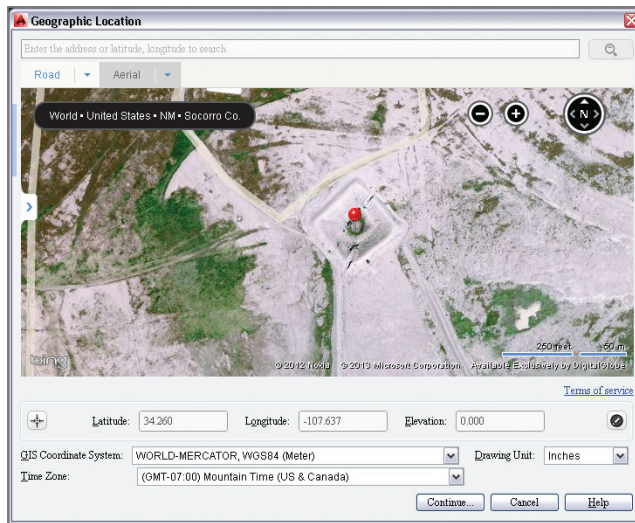

FIGURE 15.2 Selecting a geographic location with aerial maps
2. Select the ribbon's Insert tab, open the Set Location flyout in the Location panel, and choose From Map. Use the navigation controls located in the upper right of the map in the Geographic Location dialog box to locate a hypothetical site for this structure. When you have zoomed in sufficiently to settle on a site location, right-click and choose Drop Pin Here from the context menu. A red pin icon appears on the map at the location where you right-clicked (see Figure 15.2).